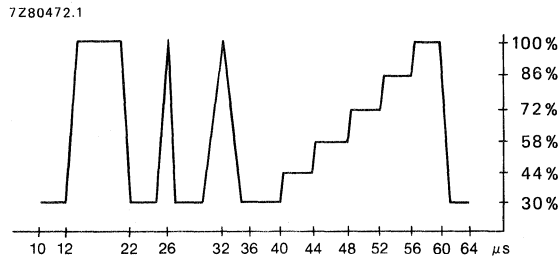

Fig. 4 E.B.U. test signal waveform (line 330).
- Measured according the test line given in Fig. 4.